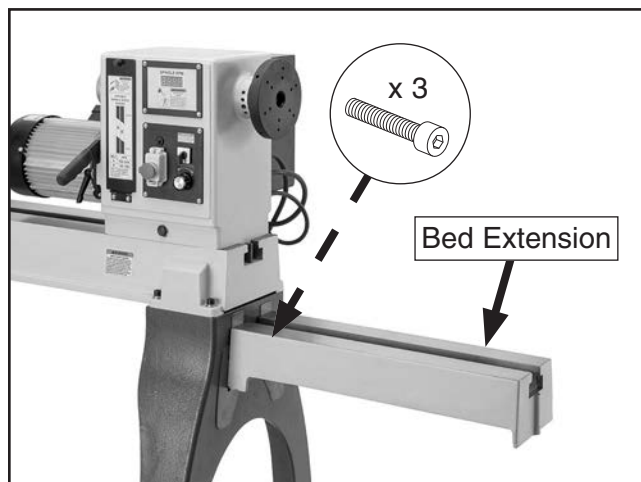

Figure 2. Bed extension attached to lathe.
1. Attach bed extension to lathe with (3) M10-1.5 x 25 cap screws (see **Figure 2**).